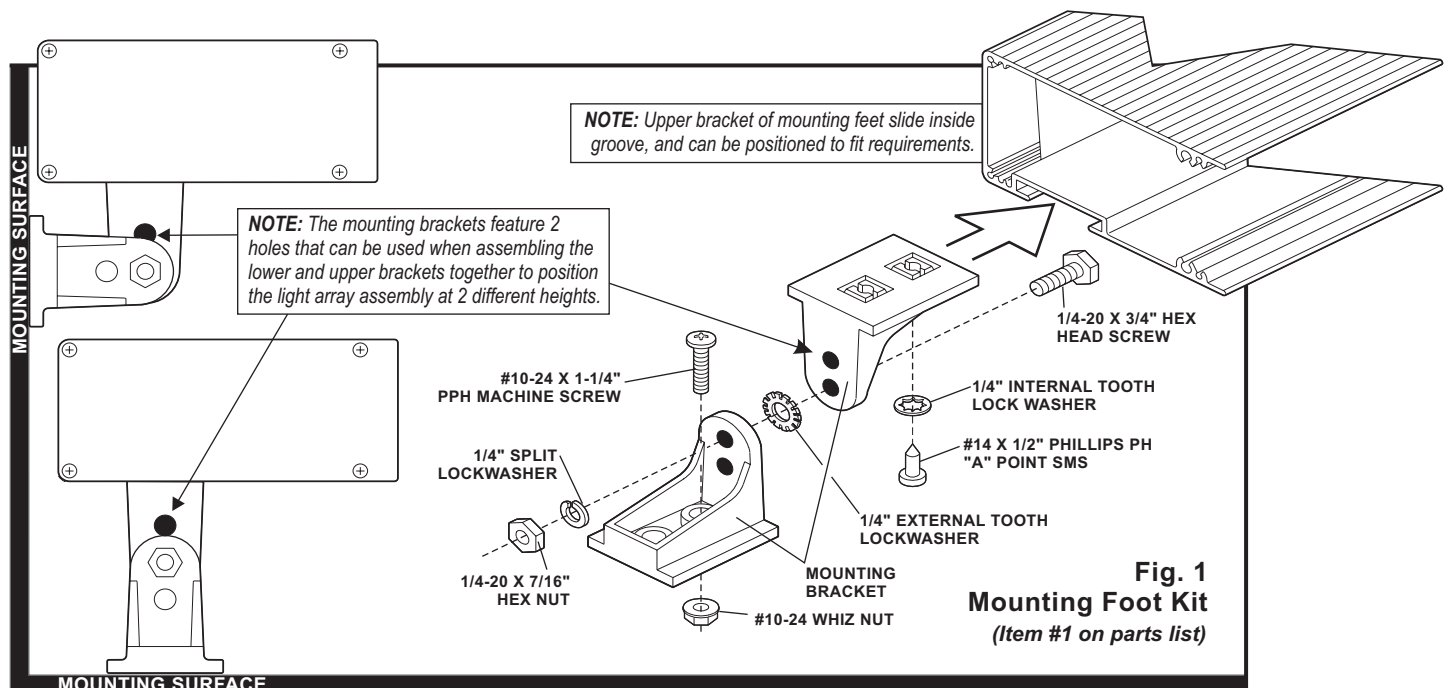

Fig. 1
1. Remove the two lower brackets of the mounting feet from the mounting kit and secure them to the upper brackets with the supplied hardware (Fig. 1).